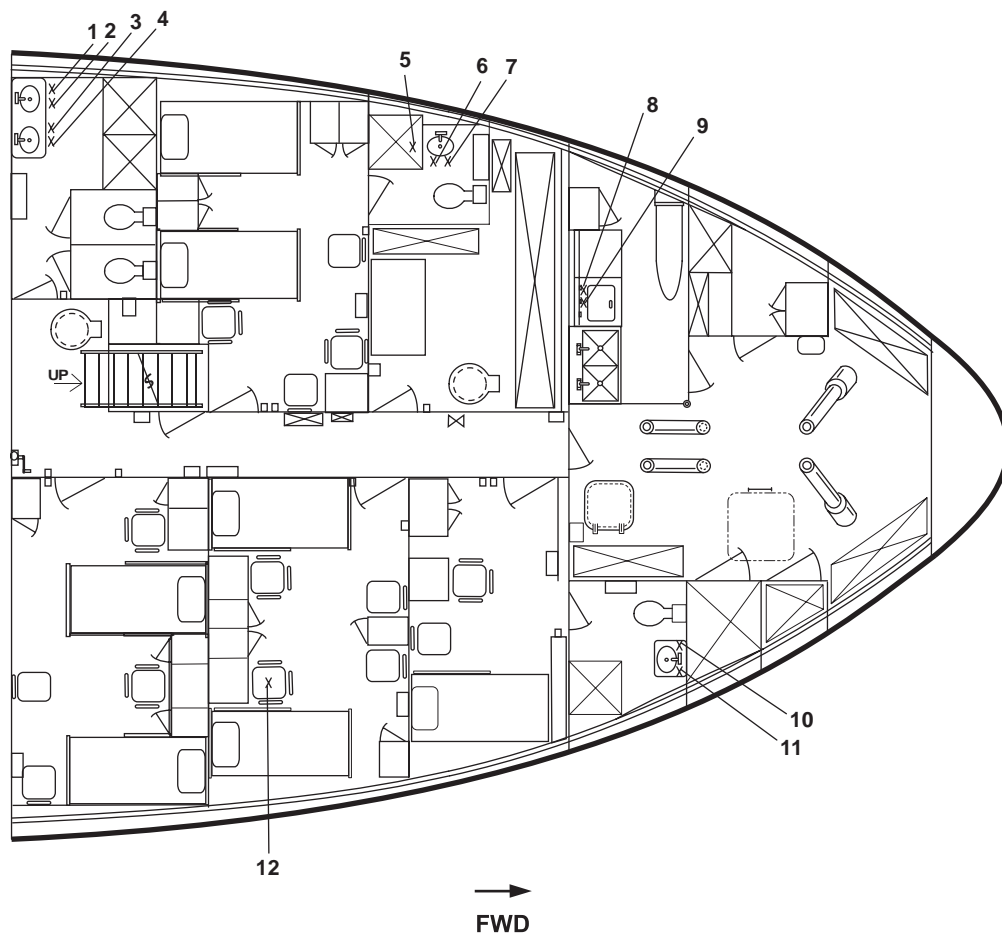

Figure 11. Main Deck Potable Water Valve Location
- (1) PW-53 (figure 11, item 1), cold potable water to the sanitary space
- (2) PW-52 (figure 11, item 2), hot potable water to the sanitary space
- (3) PW-51 (figure 11, item 3), cold potable water to the sanitary space
- (4) PW-50 (figure 11, item 4), hot potable water to the sanitary space
- (1) PW-24, C.W. TO W.C. (figure 11, item 5) (overhead)
- (2) PW-48 (figure 11, item 6), hot potable water to the sanitary space
- (3) PW-49 (figure 11, item 7), cold potable water to the sanitary space
- (1) PW-30 (figure 11, item 8), hot potable water to the sanitary space
- (2) PW-31 (figure 11, item 9), cold potable water to the sanitary space
- (1) PW-46 (figure 11, item 10), hot potable water to the sanitary space
- (2) PW-47 (figure 11, item 11), cold potable water to the sanitary space
- g. In crew's stateroom #2: PW-23 (figure 11, item 12), cold water to the water closet